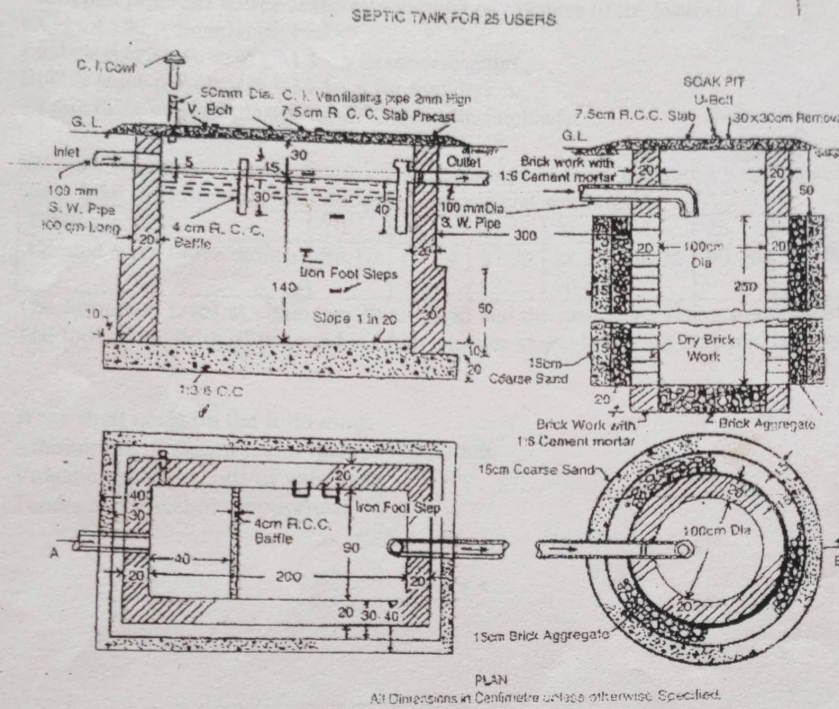

Fig. Q2
- 2 The details of septic tank is shown in Fig.Q2. Find detailed quantities of following items: